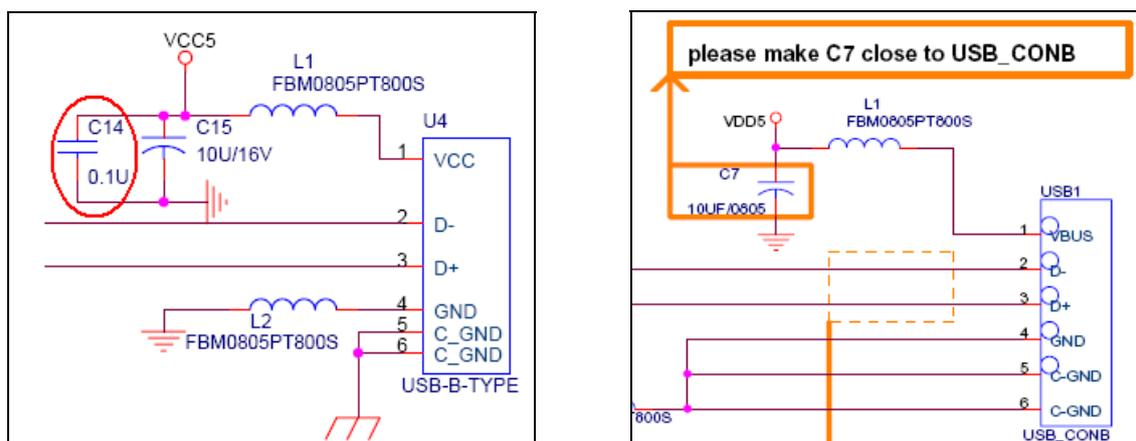

Figure-2: PL-2303H and PL-2303HXD Schematic Diagram (5V Capacitor) Comparison
- For PL-2303HXD, you can remove the 0.1μF capacitor (C14 in PL-2303H schematic) and just use 10uF as 5V capacitor (C7 in PL-2303HXD schematic). See Figure-2 below.